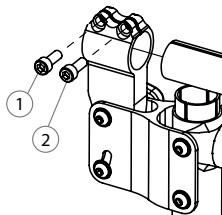

Fig. 11.1
- Loosen screw (1&2) (Fig. 11.1), which are also used to support the armrest socket (Flip Back armrest).